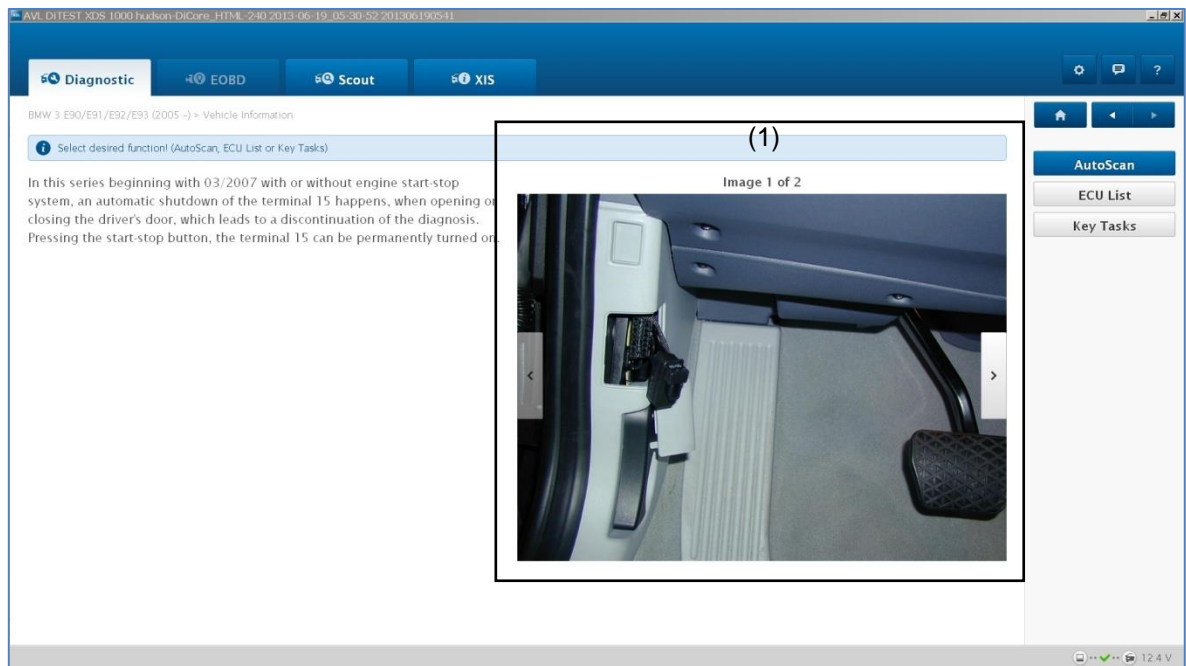

Fig. 2-2
- Select Vehicle** Confirms the selection made under (3). The dialogue "Vehicle Information" appears, see Fig. 2-2.